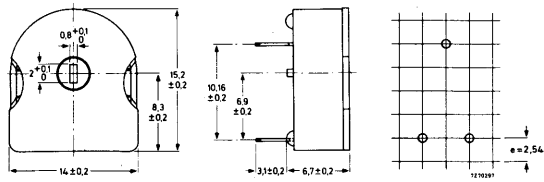

Fig.1b
- 21 = dust-covered version for horizontal mounting (Fig.1b)